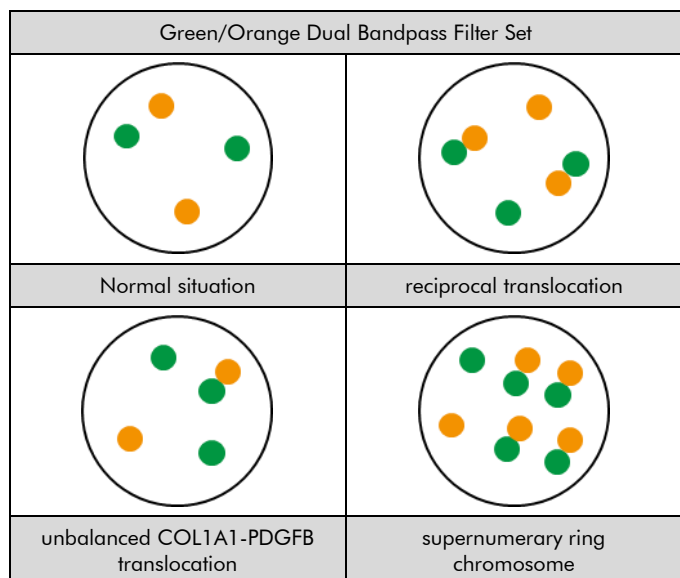

Fig. 2: Expected results in normal and aberrant nuclei
**Normal situation:** In interphases of normal cells or cells without a translocation involving the respective gene regions, two separate green and orange signals appear (see Fig. 2).